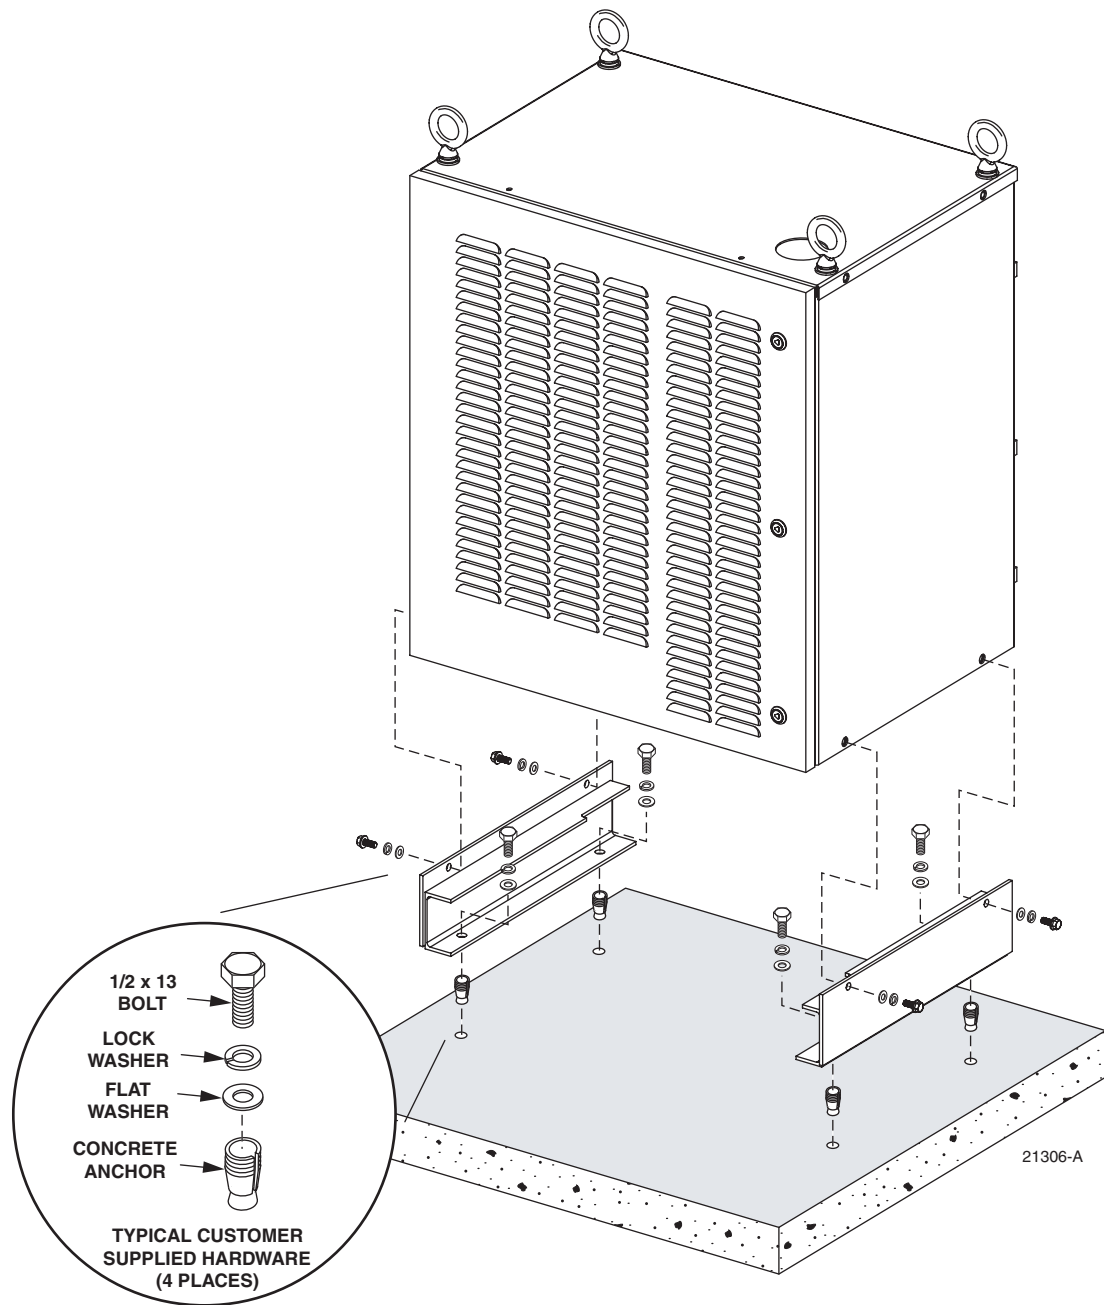

Figure 28. Installing Pedestal Mount and Cabinet
1. Fasten the pedestal mounts to the concrete pad using the customer-supplied hardware identified in Figure 28.